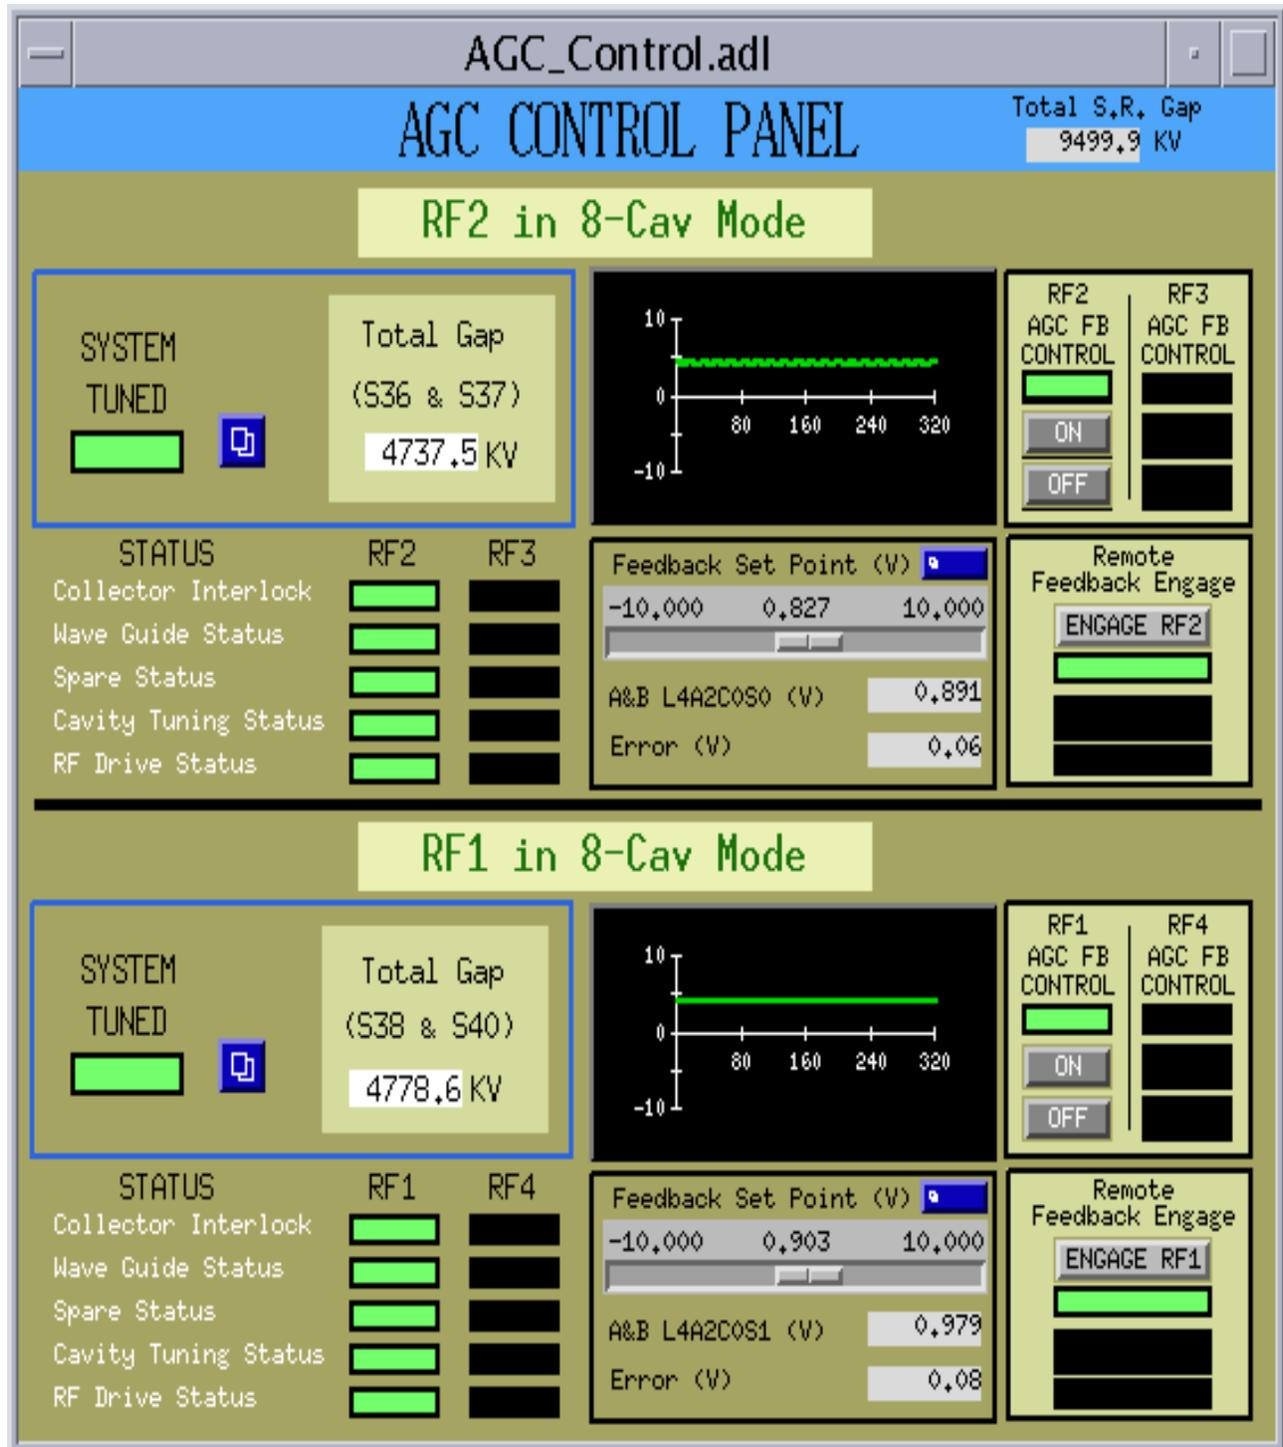

Figure 1: AGC Control Panel
16. To shut down the Gap Voltage AGC systems, press the AGC FB "OFF" button (see figure 1) for each rf system driving the ring. This will inhibit AGC control of the rf stations and reduce their power output to the manually-adjusted/non-regulated injection levels.